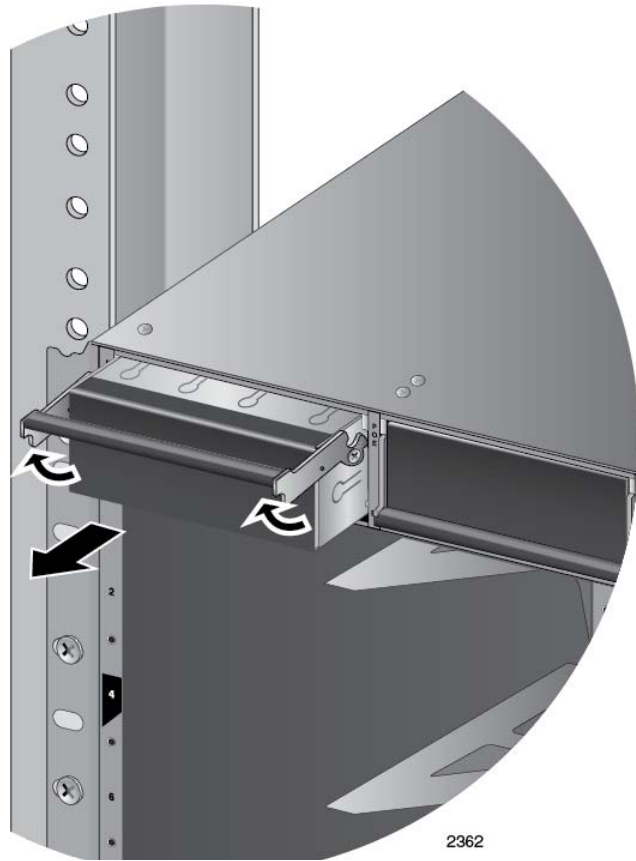

Figure 58. Removing the Blank Slot Cover from Power Supply Slot A
2. Raise the handle on the blank panel covering the selected slot and slide the panel from the chassis, as shown in Figure 58 on page 124.